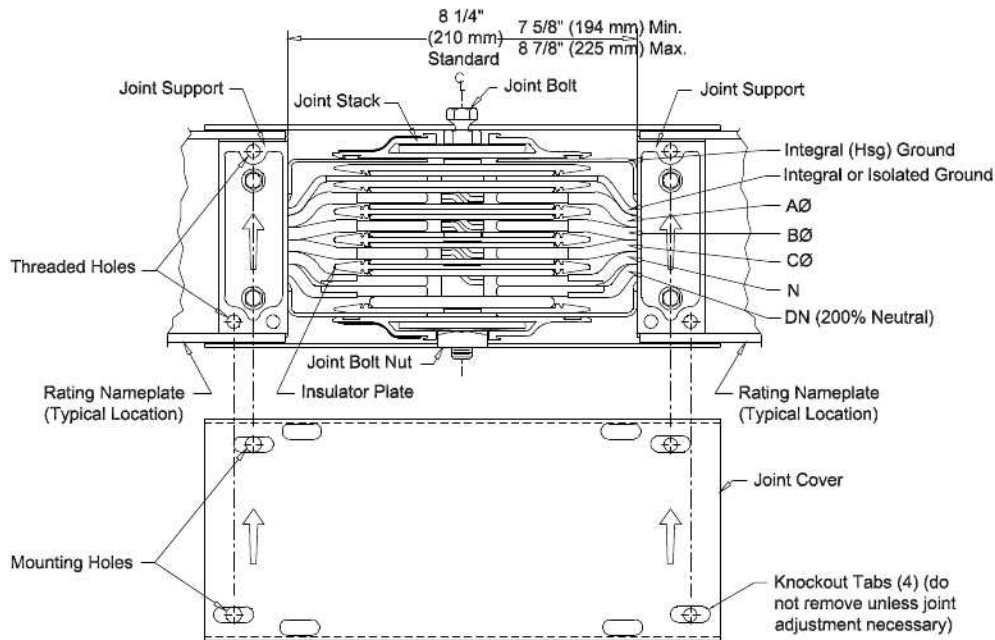

Figure 13. Joint (Assembled)
NOTE: For busway with a 200% neutral, two (2) bus bars (neutral circuit only) will engage between adjacent insulator plates as shown in Figure 13.
TIP: SENTRON Busway joints are adjustable to plus or minus 5/8 inch (16mm), when required. To assist in keeping the busway installation straight, try to minimize the use of the adjustment feature. The standard dimension between the two joint supports is 8 1/4 inches (210 mm) as shown in Figure 13. When adjustment is required, remove the appropriate knockout tabs in each joint cover as shown in Figure 13.
9.1.5 Carefully align the edges of the joint stack with the edges of the housing and end ramps. Center the joint stack between the joint supports as shown in Figure 13. Loosely fasten the remaining joint cover to the busway to verify alignment. The mounting holes in the joint cover should line up with the threaded holes in the joint supports when the busway sections are properly aligned (Figure 13).